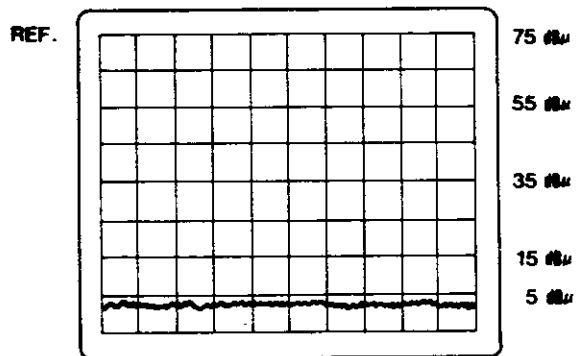
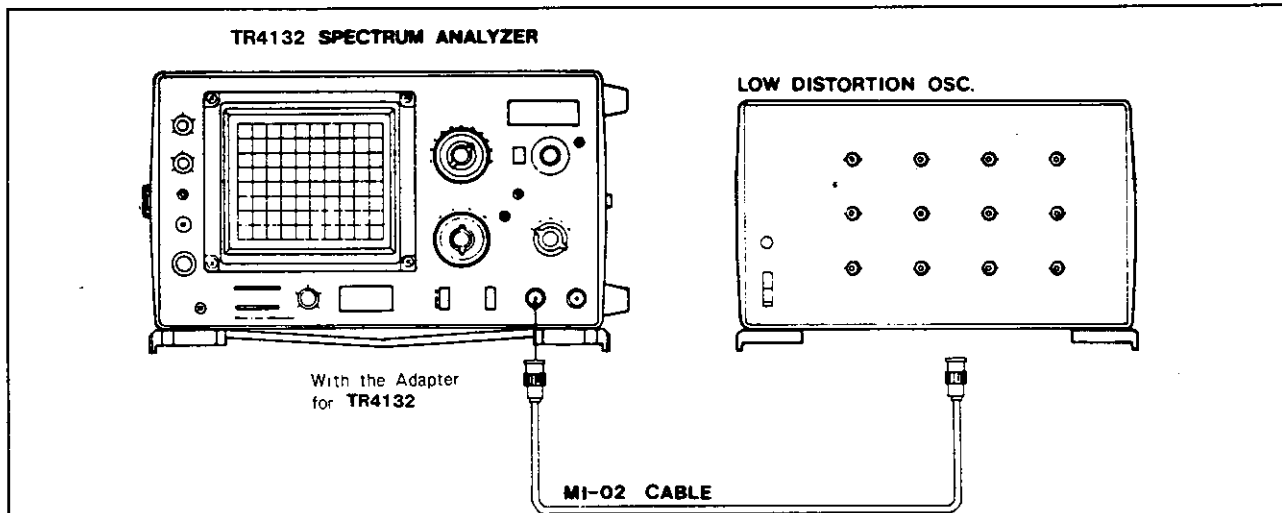

Fig. 3-32 Average Noise Level Test Display
Fig. 3-33 Spurious Response Test Setup
- (4) Adjust **IF GAIN-CAL.** and center the signal on the display. [Fig. 3-32]
- (5) Disconnect from **INPUT** of the instrument and set **VIDEO FILTER** to 100Hz.
- (6) Set the scan time slower and check that the average noise level is below  $5\text{dB}\mu$ . [Fig. 3-33]